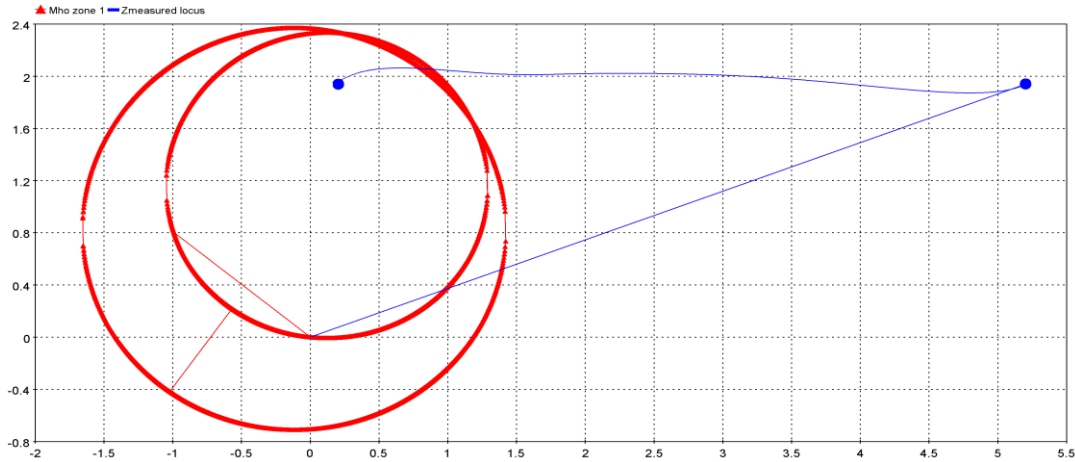
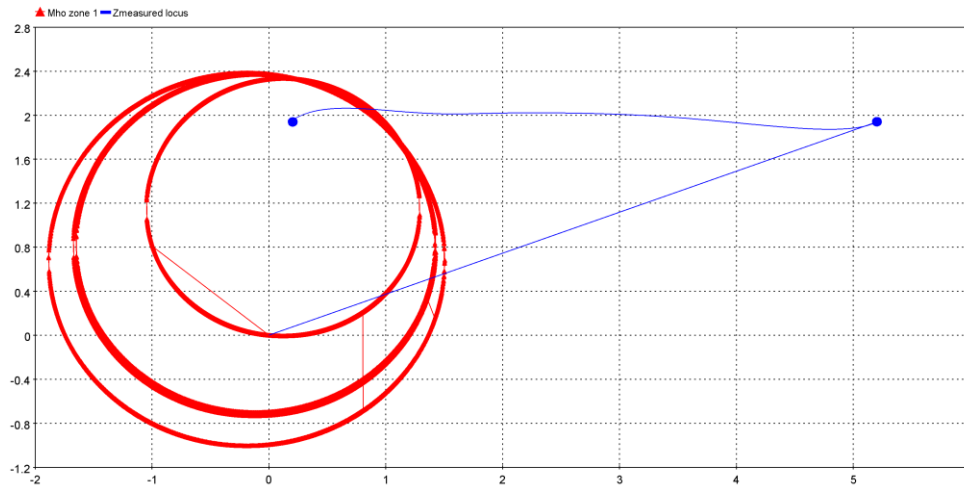

Figure 7-1 Impedance locus and Mho characteristic, Expansion time of 0.5 s, Refresh period of 1 s.
Figure 7-2 Impedance locus and Mho characteristic, Expansion time of 0.5 s, Refresh period of 0.3 s.
□ **Refresh period:** A given characteristic is polarized and its size changes during the simulation. To avoid a messy superimposition of the characteristic, the drawing is refreshed at this period. The above options are also applicable to the phase-to-phase distance element (replace GND by PHS). Examples are shown in Figure 7-1 and Figure 7-2.